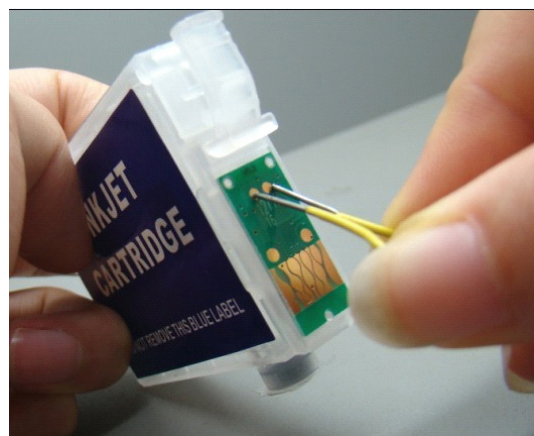

Figure 2
2. There are two small dots in the chip (Figure 2), use any handy electrical conductor and connect the two dots with both sides of the conductor (Figure 2 using a paperclip).